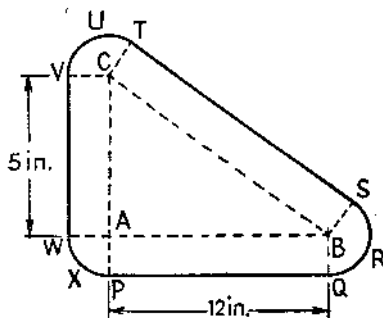

Fig. 32
(6) For the template shown in fig. 32, calculate: (i) the length of BC if  $\angle CAB = 90^\circ$ ; (ii) the angles B and C of the triangle; (iii) the perimeter of the template.